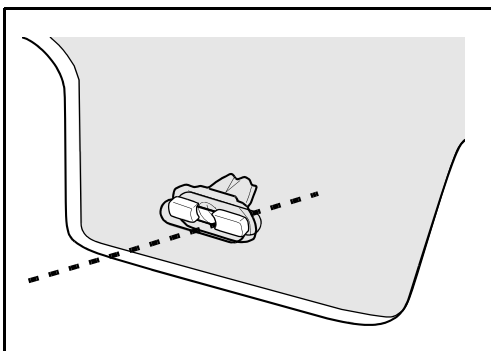

Figure 4.
4. Re-install the Hood Protector onto the hood ensuring that the two slots in the Hood Protector tags locate over the top of the screw plug boss section as shown in figure 4.